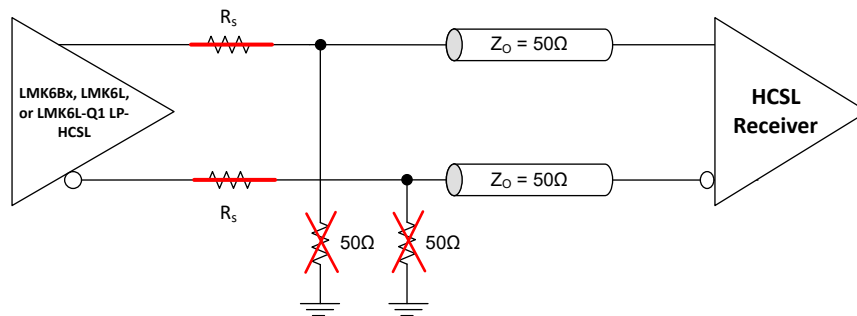

Figure 8-5. Replacing an HCSL Oscillator With the LMK6L-Q1
2. Depopulate any 50Ω resistors to GND as shown in Figure 8-5.
3. Replace any series resistors with 0Ω as shown in Figure 8-5.